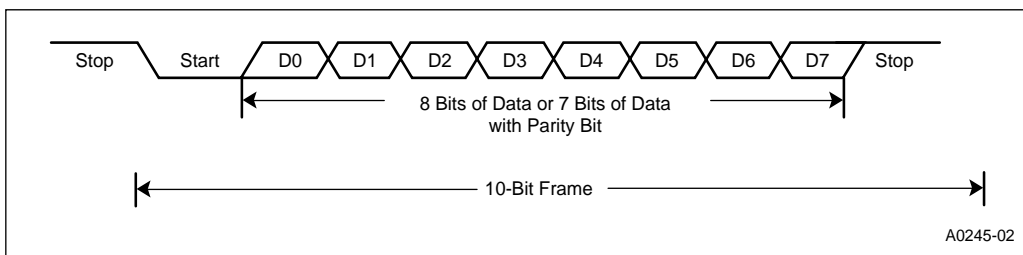

Figure 8-4. Serial Port Frames for Mode 1
Mode 1 is the standard asynchronous communications mode. The data frame used in this mode (Figure 8-4) consists of ten bits: a start bit (0), eight data bits (LSB first), and a stop bit (1). If parity is enabled, a parity bit is sent instead of the eighth data bit, and parity is checked on reception.